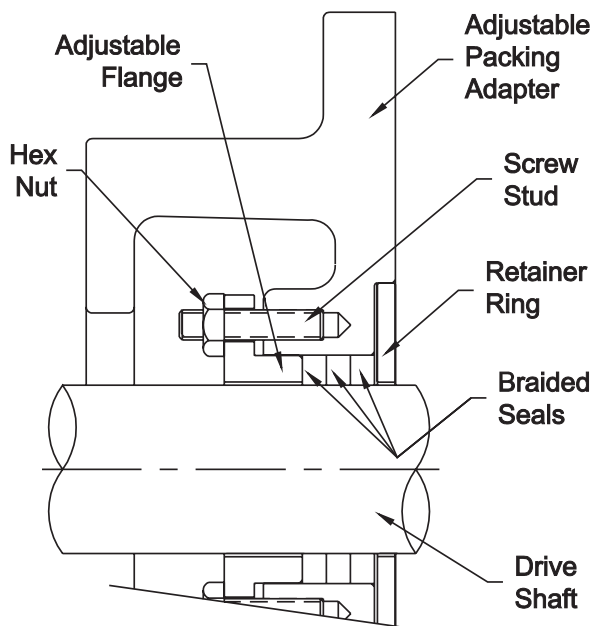

Figure 2 - Optional Adjustable Packing Adapter
9. See Figure 2 for assembly view with nomenclature.